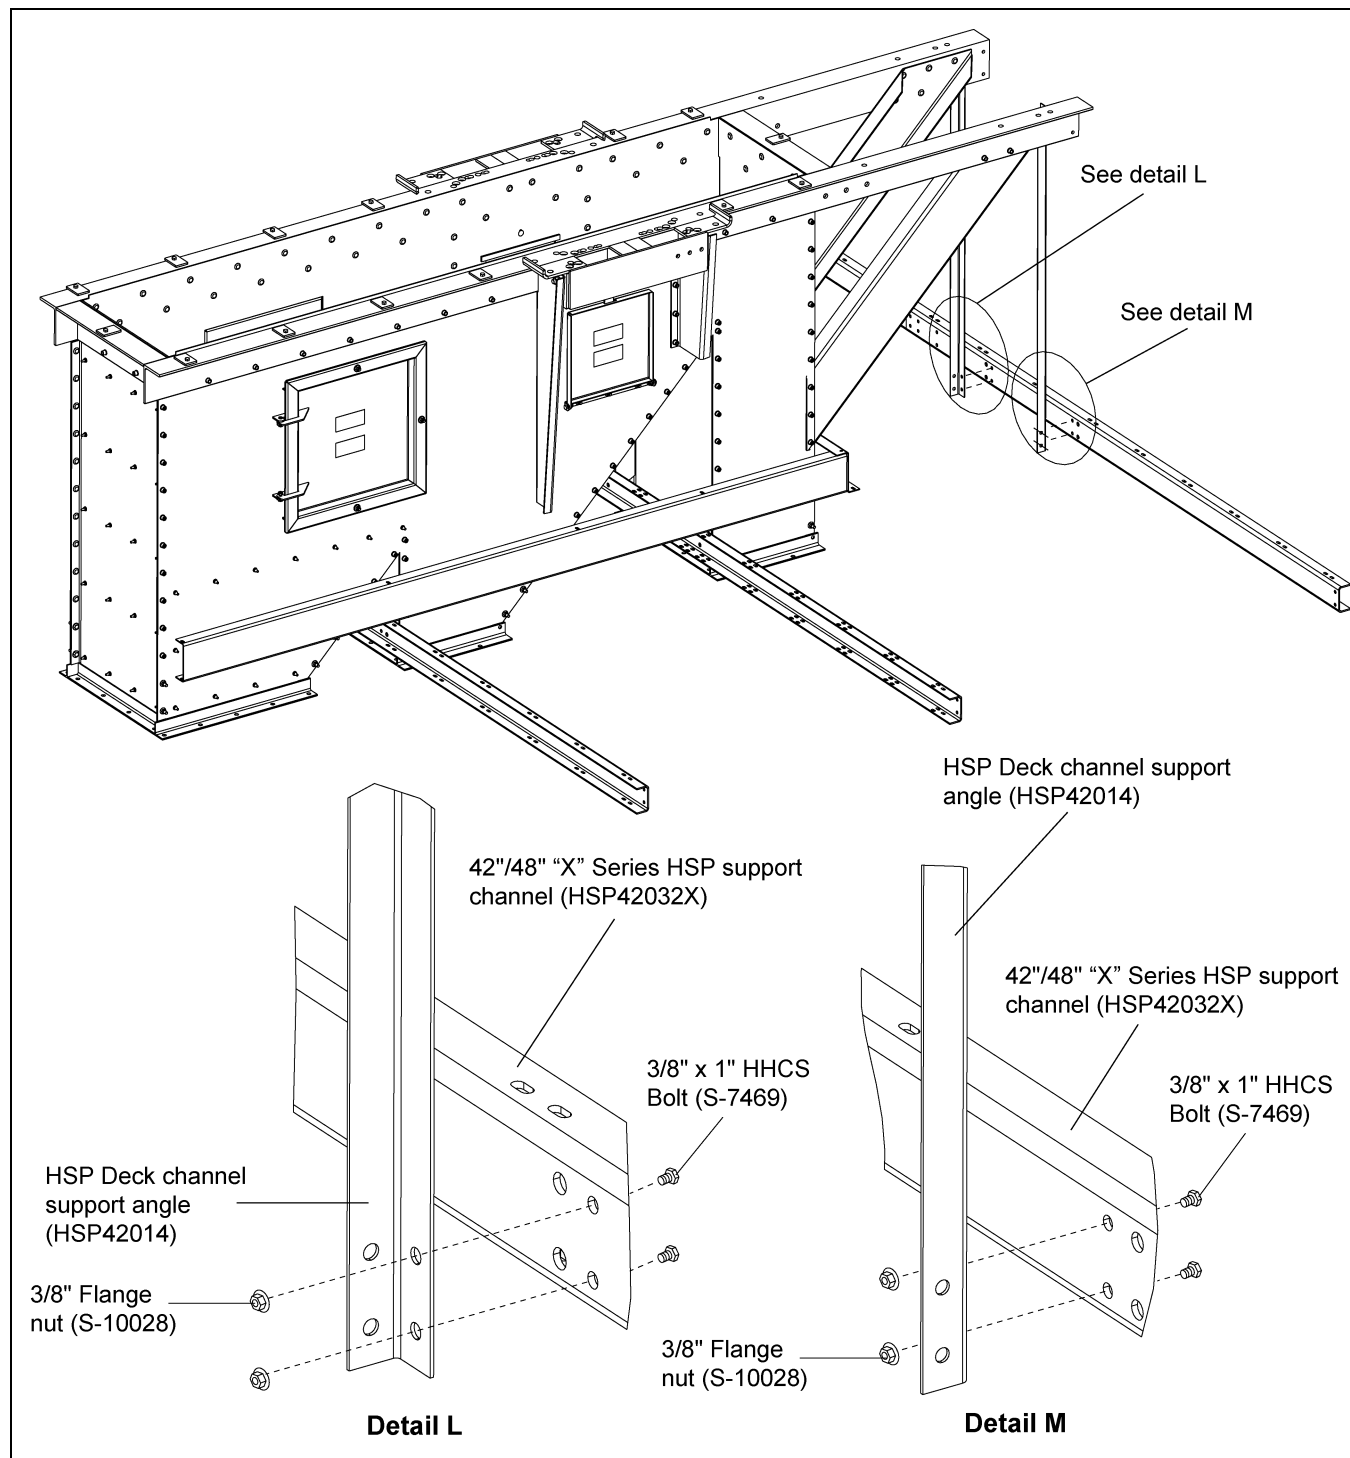

Figure 8F
1. Attach the deck channel support angles (HSP42014) to the remaining support channel (HSP42032X) using 3/8" x 1" HHCS bolts (S-7469) and 3/8" flange nuts (S-10028). (See Figure 8F.)